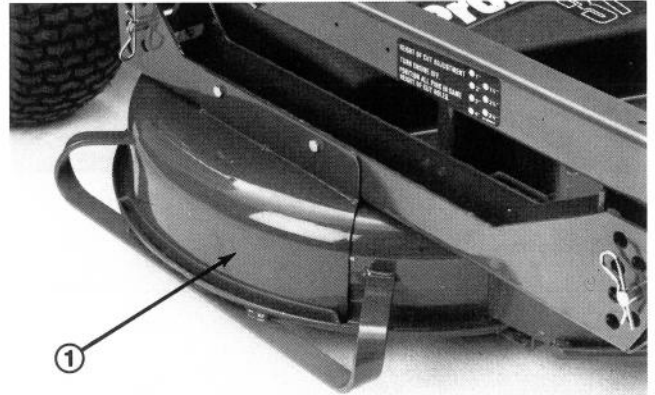

Figure 6
1. Remove (2) capscrews, lock washers and wing nuts securing discharge cover to deck channel. Remove cover (Fig. 6).
The grass deflector (Fig. 6) is a safety device that diverts grass and other foreign objects discharged downward. Without deflector mounted in place on the cutting unit and spring loaded hinges holding deflector in the down position, the blades could hurl grass and foreign objects out the discharge opening with enough force to cause injury or property damage. If the grass deflector or spring hinges are worn, broken or damaged, repair or replace the affected part(s). Do not operate cutting unit without deflector, discharge cover or entire grass collector mounted on the cutting unit. Always be sure the deflector chute is in the lowest possible position.